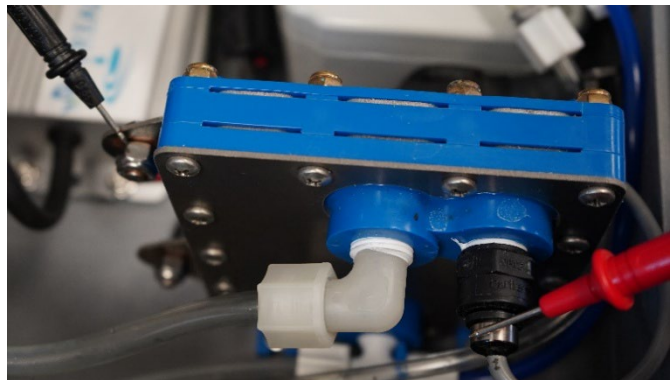

Figure 3-8. Continuity Thermowell Housing to Electrode
- Check continuity (see Section 4.4) between the thermowell housing and the cell electrodes while the system is running (see Figure 3-8).